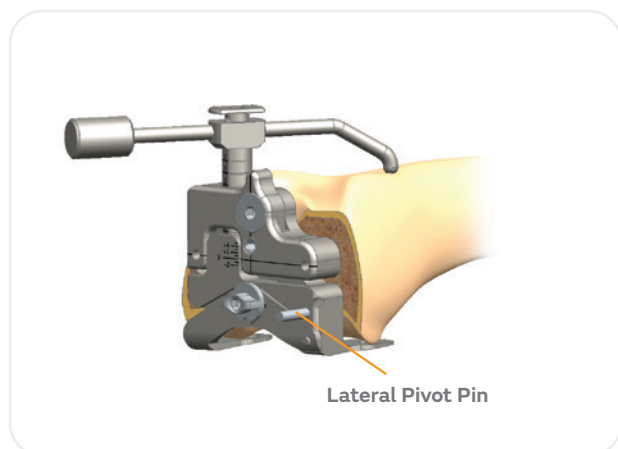

Figure 86
1. Place the appropriate (left or right) LEGION® Sizing Guide on the resected distal femur with the rotation set to 0° to resect implant thickness from the posterior condyles. Place a 45mm headed pin through the hole just above the lateral paddle to secure the sizing guide for the remainder of its use (**Figure 86**).